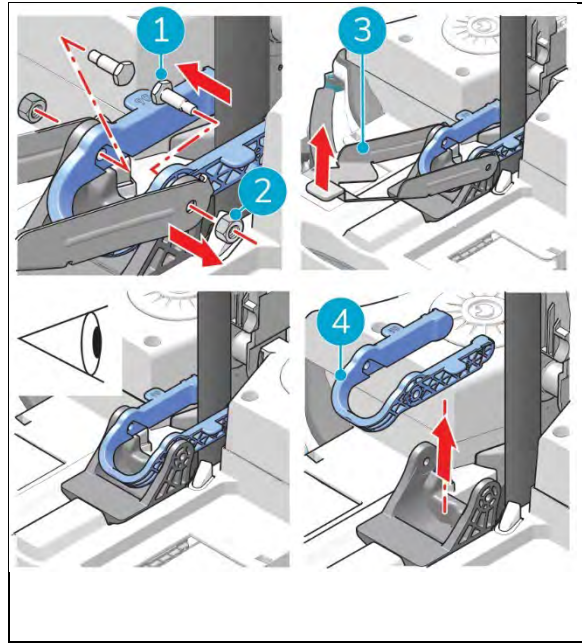

Figure 14
4. Remove the nuts (Figure 14, pos. 1) from the bolts (Figure 14, pos. 2).